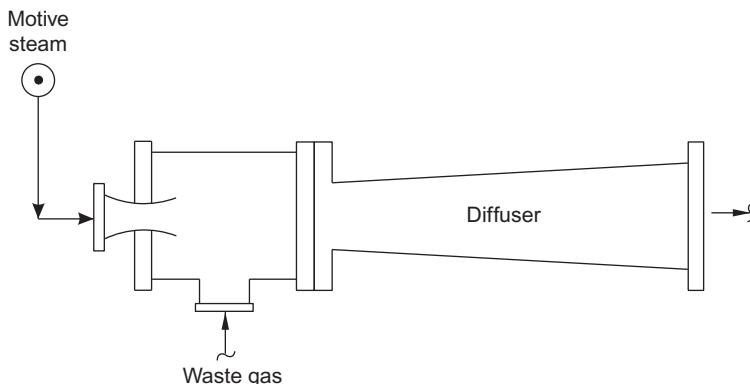

FIG. 25.3 A diverging or hogging steam ejector.
- a. The simple diverging jet, shown in Fig. 25.3.
Operators call the jet in Fig. 25.3, a “Hogging Jet.” It is less efficient than a converging-diverging ejector and is typically employed in intermittent services, where the cost of the motive fluid is not important. The motive steam flows into the steam nozzle at perhaps 100 ft/s. Due to the shape of the nozzle, the steam accelerates to about 10,000 ft/s. The energy to accelerate the steam is derived mainly from the temperature of the steam. What I’ve observed is that if the motive steam is:
The waste gas (Fig. 25.3) that is being evacuated is drawn into the ejector’s mixing chamber. Typically, three or four pounds of motive steam is needed to suck in one pound of waste gas.
Juan and I purchased a hogging type (i.e., single stage, diverging—Fig. 25.3) ejector. We used the natural gas from well "B" (at 2500 psig) as motive gas to boost the smaller amount of gas from well "A" (at 200 psig) up to the pipeline pressure of 600 psig.